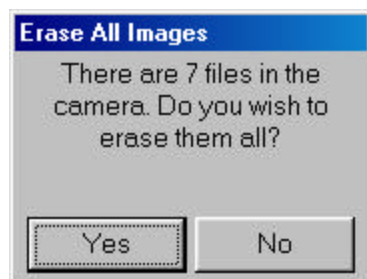

Figure 14-6
**3.3.2 Erase All Camera Files** – Erases all images (Raw and Jpeg) in the camera. (see figure 14-6 below)